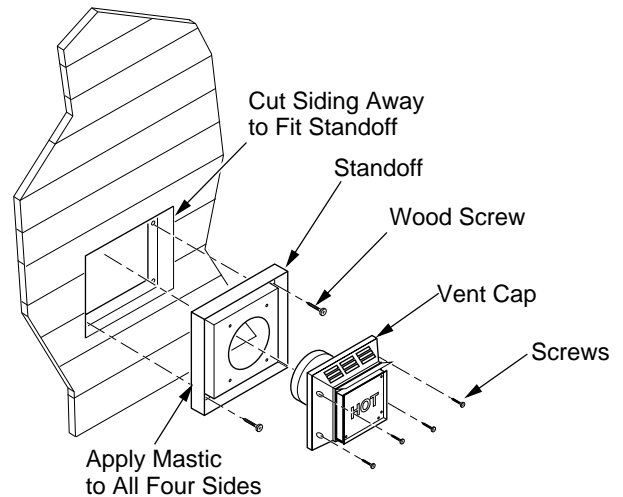

Figure 11 - Installing Siding Standoff (Combustible Exterior Wall)
**Combustible Exterior Wall:** For vinyl siding, stucco, or wood exteriors, a siding standoff must be installed between the vent cap and exterior wall. The siding standoff prevents excessive heat from damaging the siding materials. Siding material must be cut to accommodate standoff. Bolt the vent cap to the standoff. Apply non-hardening mastic around outside edge of standoff. Position the standoff/cap assembly in the center of the 10 3/4" square hole and attach to exterior wall with wood screws provided (see Figure 11). The siding standoff must sit flush against the exterior fascia material.